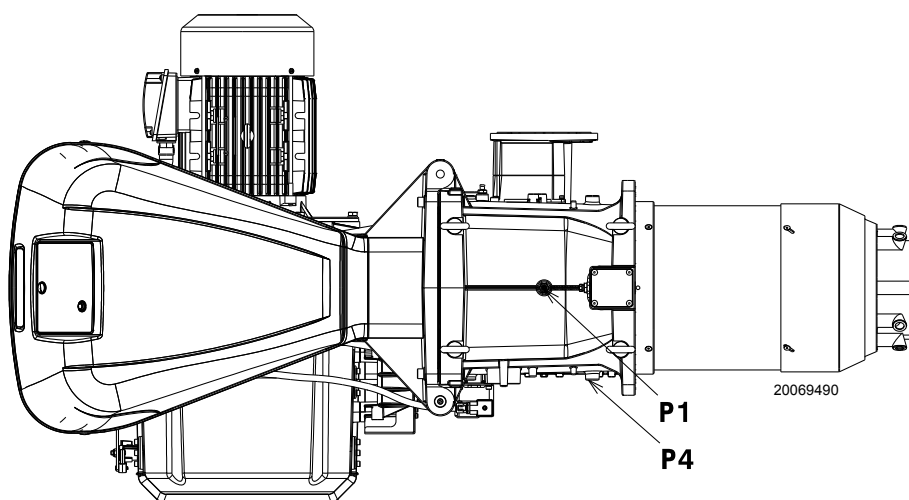

Fig. 24
Gas pressure measured at the test point P1)(Fig. 24), with:
- subtract the combustion chamber pressure from the gas pressure measured at test point P1)(Fig. 24).
Gas pressure at test point P1)(Fig. 24) = 58.1 mbar
To calculate the required gas pressure at test point P1)(Fig. 24), set the MAX output required from the burner operation:
- Read, on the right (column 1), the pressure at the test point P1)(Fig. 24).
Pressure required at test point P1)(Fig. 24).